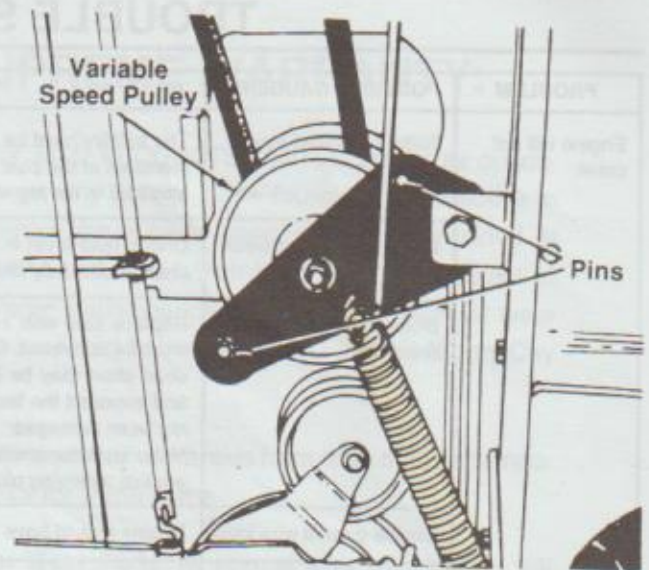

FIGURE 24
5. Remove nut and lockwasher from the bottom of belt keeper pin (stud) on the left side of the unit. Remove the belt keeper pin (stud). See figure 24.
NOTE: When reassembling, make certain belt is inside the pins. See figure 24.